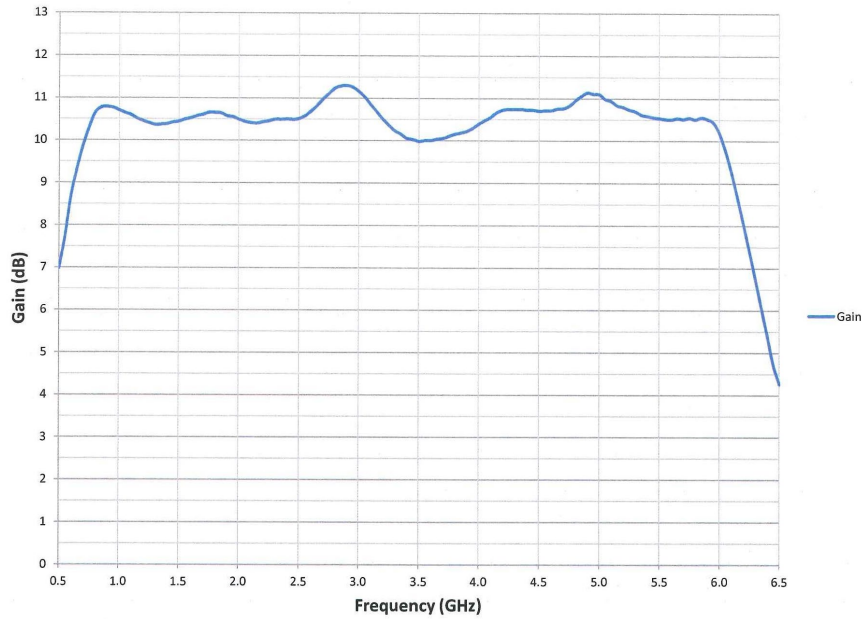

Figure 4-7. Typical Quad Amp Response
6. If the response of the output stages normal, check the response of the A2 Quad Amp (see Figure 4-7).